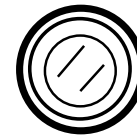

Figure 18. Start Switch
5. Next, press the generator's pushbutton start switch (Figure 18) and listen for the engine to start. If starting the welder-generator using the recoil start method, proceed to step 11.